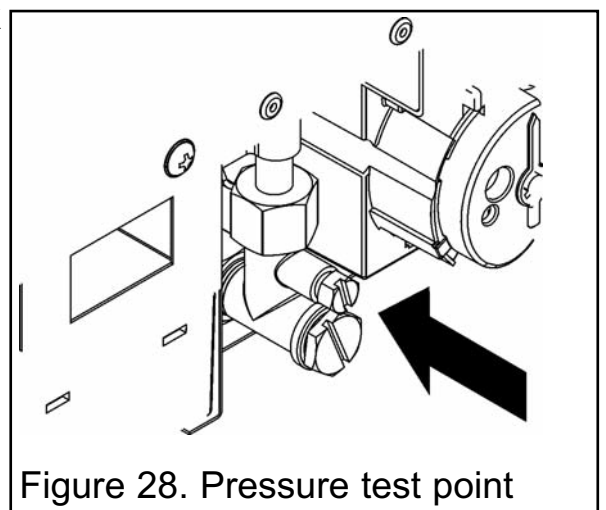

Figure 28. Pressure test point
1. Check the inlet pressure by fitting a pressure gauge at the test point. The test point is on the inlet 'T' connector (See figure 28). Check the pressure with the appliance alight and set at maximum output.